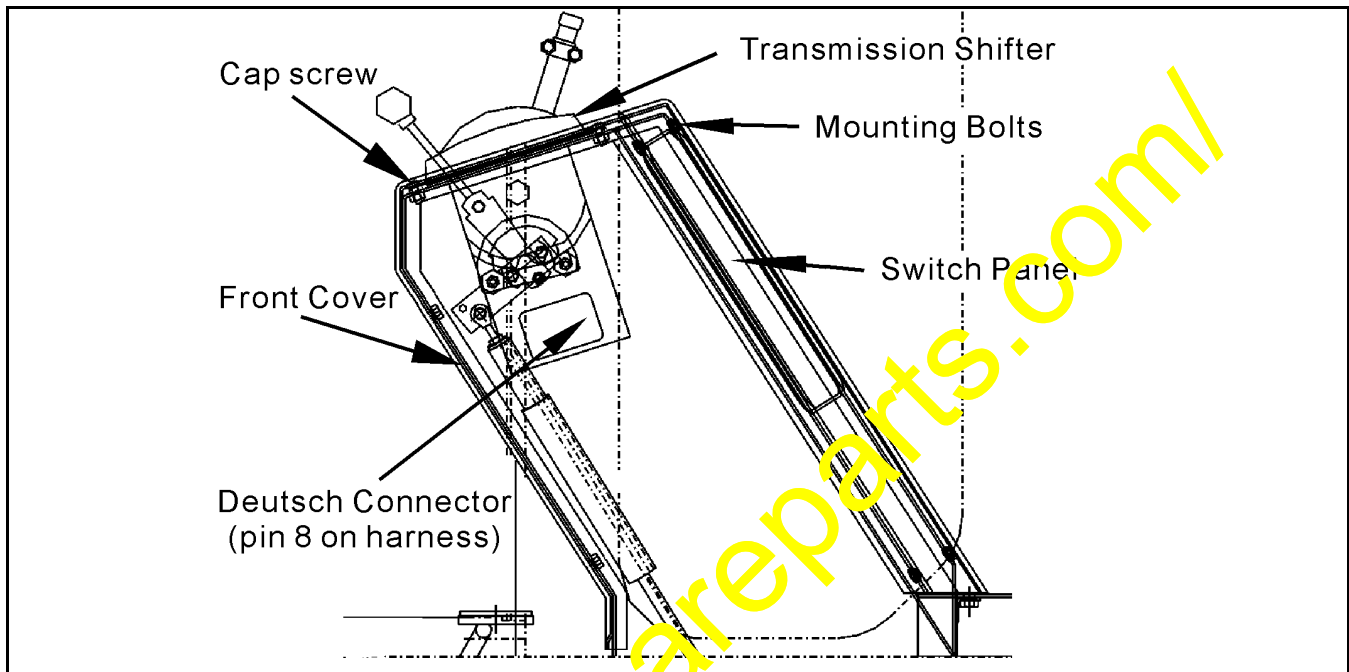

Figure 1. Transmission Shifter
2. Remove the 1/4-inch cap screws that hold the shifter cover to the right hand console, and remove the plastic shifter cover. Remove switch panel from the console. See Figure 1.